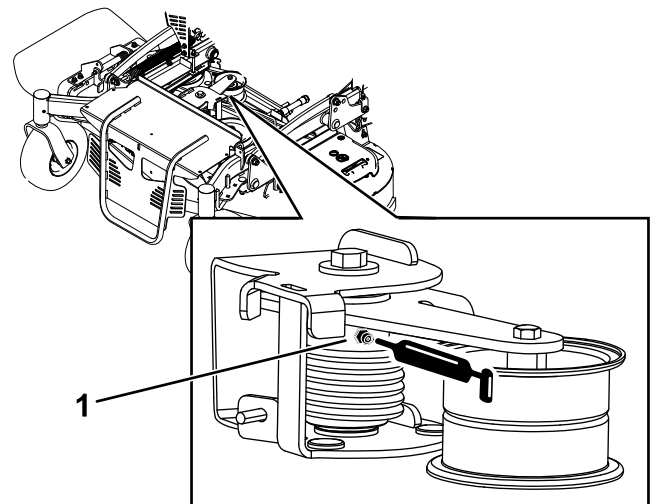

Figure 35
2. Grease the torsion idler on the mower deck using high-temperature grease at the grease fitting shown in Figure 35.